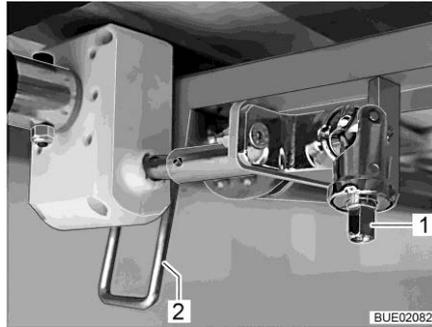

Fig. 136 Height adjustment
- Attach the crank onto the journal (Fig. 136,1).
- Swivel the lever (Fig. 136,2) downwards into vertical position.
- Swivel the lever (Fig. 136,2) upwards into horizontal position.